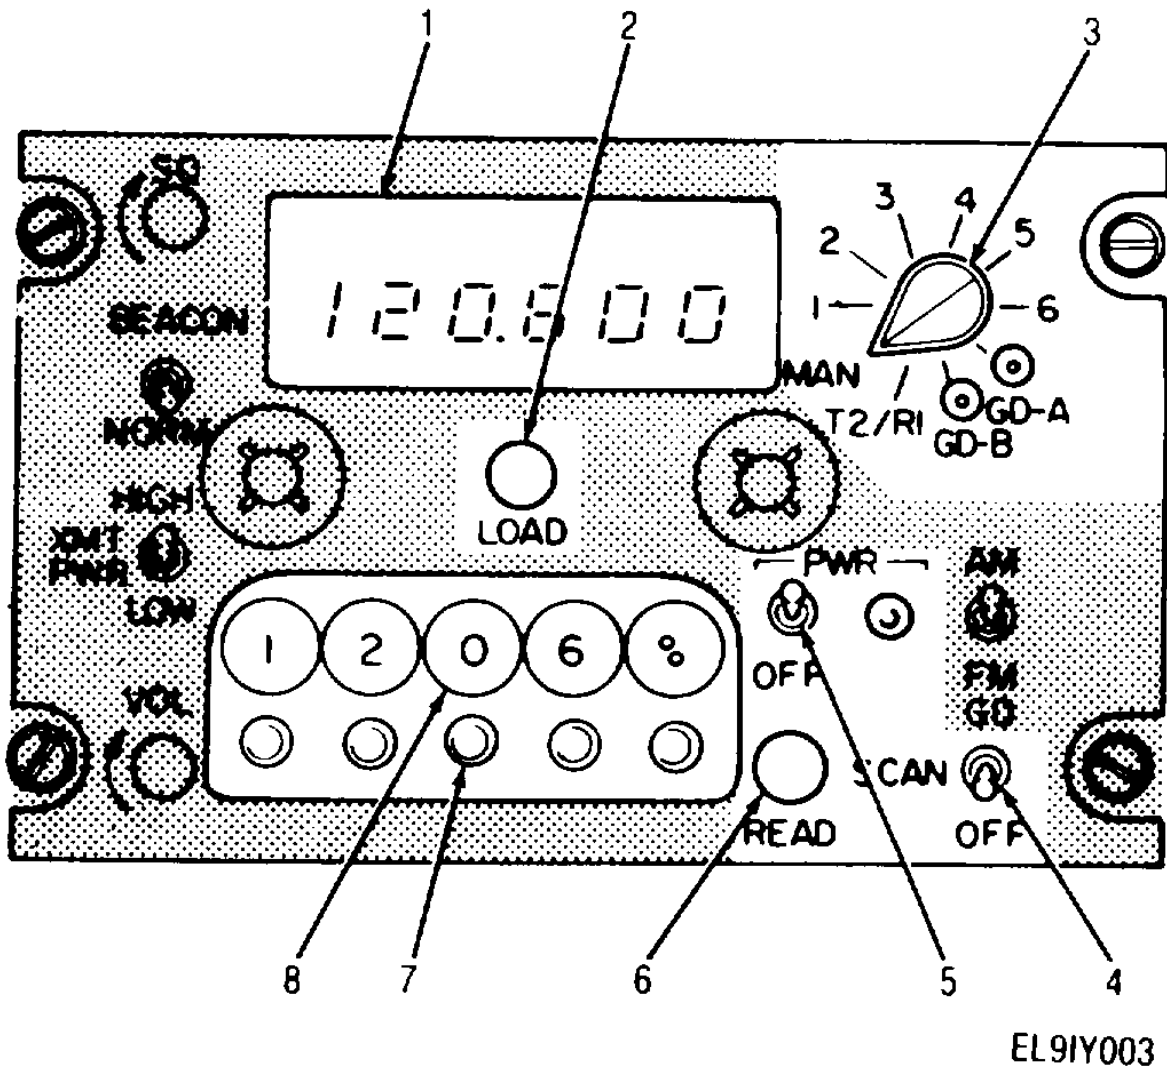

Figure 2-5. Frequency Loading Controls
a. Manual Frequency Selection. To select and operate on a frequency other than one stored in memory, refer to Figure 2-5 and perform the following steps:
- (1) Position SCAN switch (4) to OFF.
- (2) Position PWR switch (5) to up position, then verify PWR indicator is on
- (3) Position frequency channel selector switch
(6) Press and hold the READ switch (6) while ensuring selected frequency is displayed on the frequency display (1).
(7) The Radio Set will now transmit and receive on the selected frequency.
b. **Selecting Frequency for Storage.** To store six operative and two guard frequencies, refer to Figure 2-5 and perform the following steps-
- (2) Position PWR switch (>) to up (ON) position and verify PWR indicator is on.
- (3) Position function selector switch (3) to the channel number in which the frequency is to be stored.
- (4) Beginning with left-most digit, press and release left-most frequency selector push-button (7) until desired number is displayed in window above switch (8).
- (5) Repeat step 4 for each of the remaining numbers of the selected frequency moving right to the next digit and switch for each new digit.
- (6) Press and release LOAD push-button (2).
(7) Press and hold READ push-button (6) while ensuring the selected frequency is displayed on the frequency display (1).
(8) Position the function selector switch (3) to the next desired position and repeat steps 4 thru 7.
c. **Selecting Frequency of Operation.** The Radio Set transmit and receive frequencies are determined by the function selector switch. If channel selector switch is in MAN, the operating frequency is that which is selected on the frequency selector switches. If function selector switch is in T2/R1, the transmit frequency will be that which is stored in channel 2 and the receive frequency will be that which is stored in position 1. If function selector switch is in any one of the positions 1 thru 6, the transmit and receive frequency will be that which is stored in the selected position. To select operating channel, refer to Figure 2-5 and perform the following steps:
(1) Position PWR switch (5) to up (ON) position and verify PWR indicator is on.
(2) Position SCAN switch (4) to OFF position.
(3) Position channel selector switch (3) to desired channel.
- (4) Press and hold READ push-button (6) and ensure correct frequency is displayed on the frequency display (1).